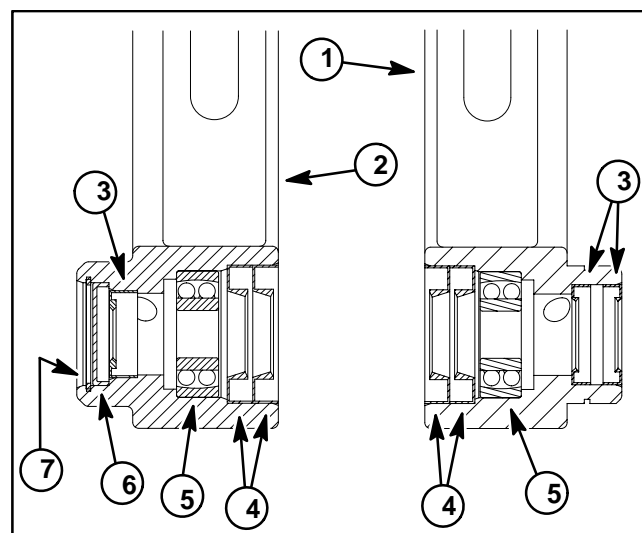

Figure 16
1. If bearing housing were disassembled, install bearings and grease seals noting proper orientation of components as shown in Figure 16.